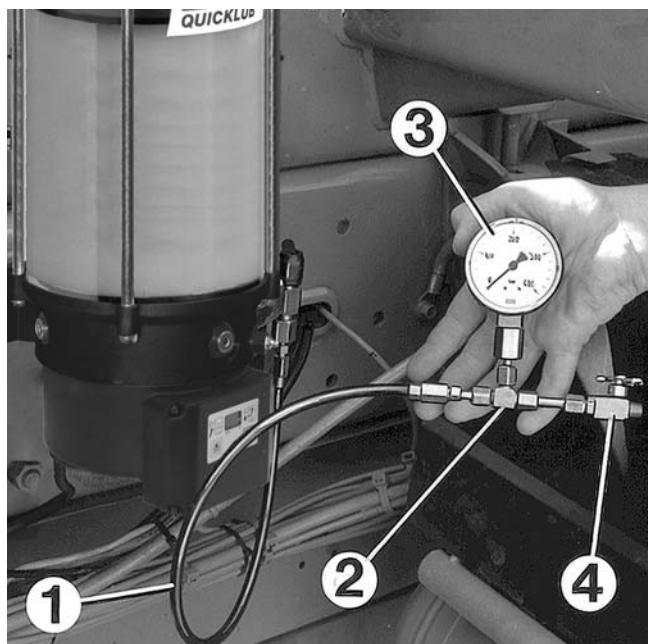

Fig. 46 To Check the Pressure Relief Valve
- ➔ Connect the pressure gauge 3 (Fig. 46) to the pressure relief valve.